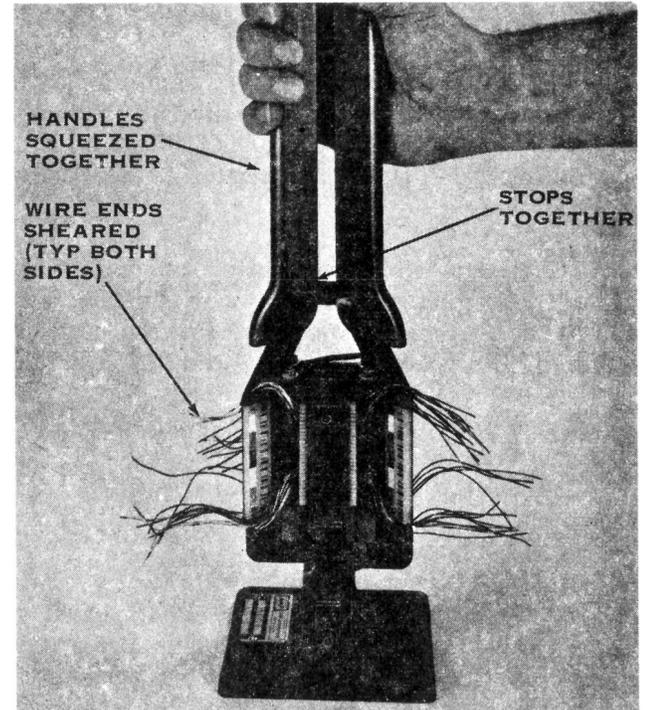

Fig. 5
4.03 Raise handles and bring them together so inserters and stuffers enter wire holders. After inserters and stuffers have contacted wires, squeeze handles together until stops on handles hit. This will assure that all wires are fully inserted in the contacts of the connector and that the ends are sheared. (See Fig. 5.)